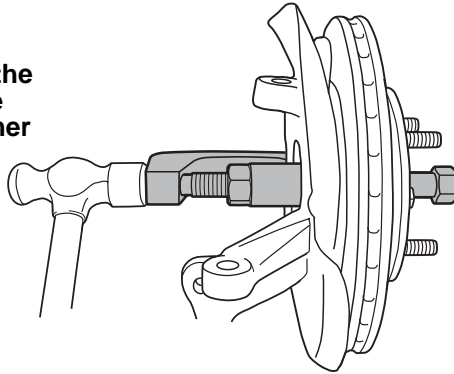

Figure 7
8. Using a 1-1/8" wrench on the nut, and a 1-1/16" socket with impact wrench on the head of the forcing screw, tighten the forcing screw into the nut to draw the hub out of the knuckle. See Figure 7.
Tip: If the hub will not break loose from the knuckle, verify the tool setup is tight and aligned straight. Strike the top of the HubTamer with a hammer as shown in Figure 7. Once the hub breaks loose, use the 1-1/8" wrench and impact wrench with socket to tighten the forcing screw into the nut to draw the hub out of the knuckle.